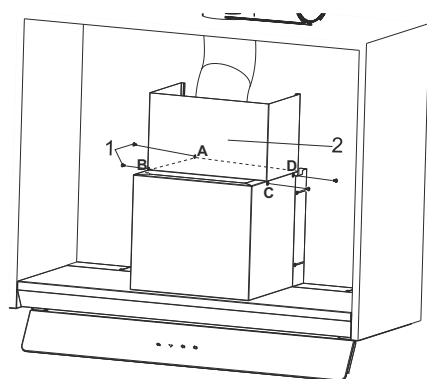

Fig. 19
5. ➔ Place the supplied sheet metal flues on the product (Fig. 19).
Using the 4 connection screws through the A, B, C, D points to the appliance body (Fig. 19).